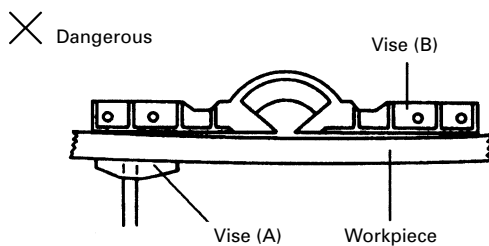
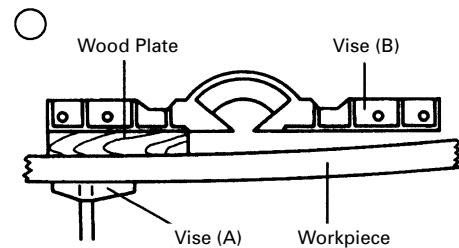

Fig. 22
Fig. 23
To cut an uneven workpiece such as the one shown in Fig. 22, use a wood plate between vise (B) and the workpiece as shown in Fig. 23.